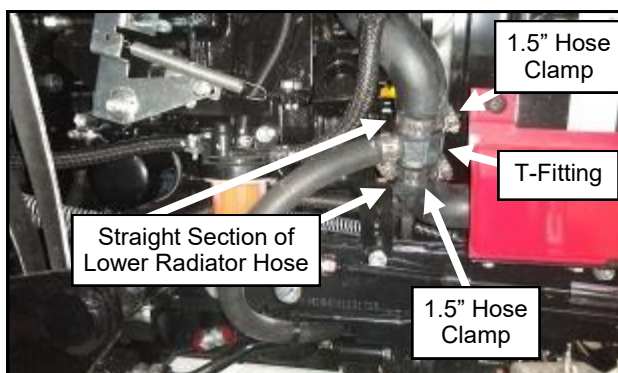

Fig. 19.1 (Lower Radiator Hose)
19.1 Place a clean coolant drain pan under the lower radiator hose, cut the hose in the middle of the straight section as shown in Figure 19.1, and let the coolant drain into the pan.
19.3 Place the two 1.5" hose clamps on either side of the cut lower radiator hose and install the T-Fitting provided. See Figure 19.1.